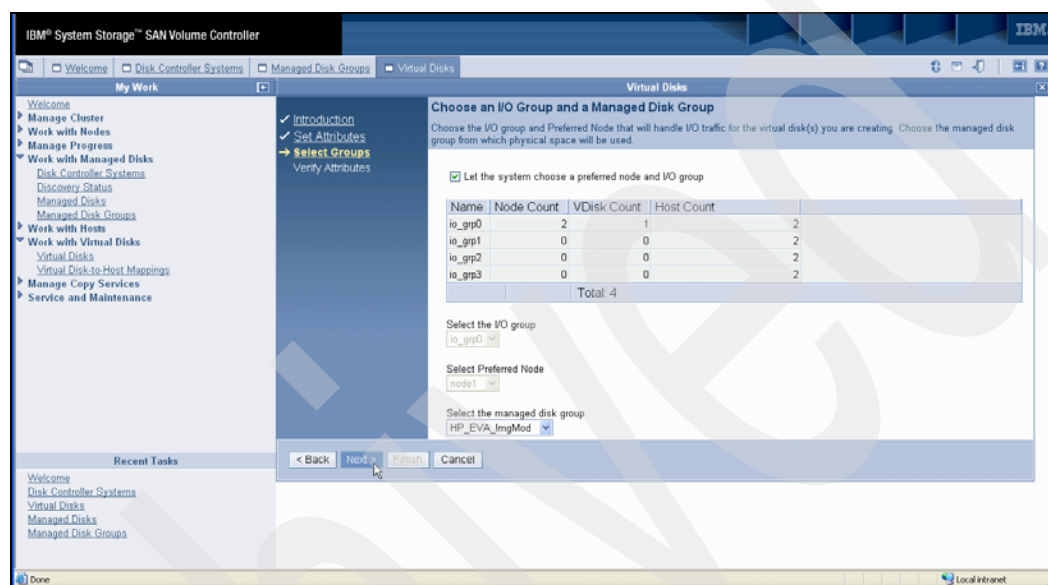

Figure 7-17 Create Image Mode VDisk choose I/O group and managed disk group
9. On the next panel (Figure 7-17) you can choose the following attributes: